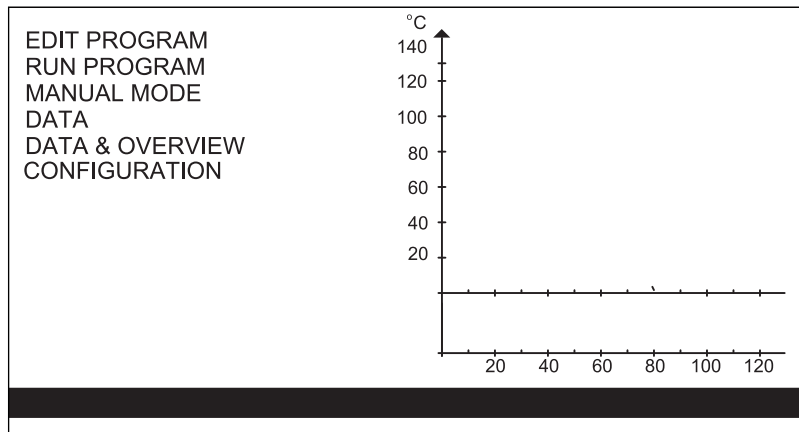

Fig. 1
- 7 An alarm message as in Fig. 1 appears. After pressing [Esc] or go to Run Program Menu, the display will appear as shown in Fig. 3.